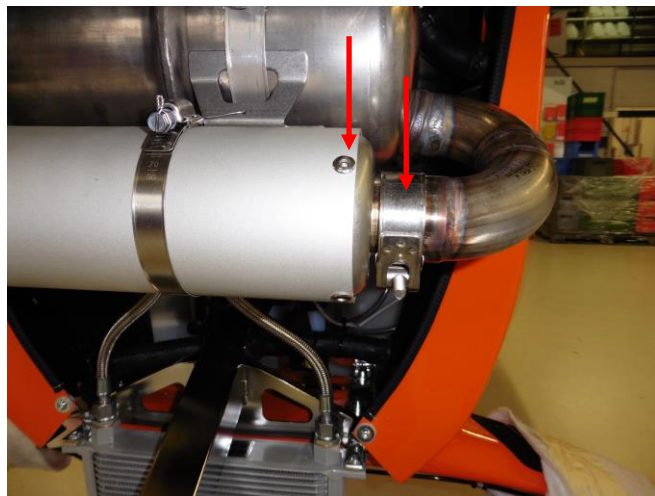

Fig.1 Rivets and hinge pin clamp
- 2 Loosen the hinge pin clamp (Fig.1).